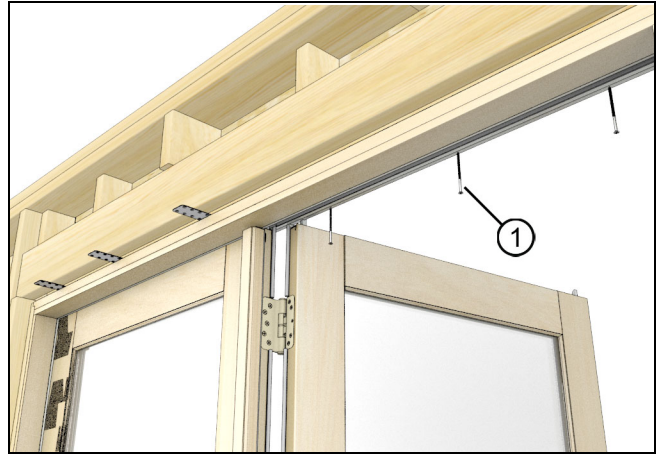

Figure 18
3. For units with a stationary panel and an interior astragal, the head jamb cover cannot be removed. Installation screws (minimum #8 x 3") will go through the head/jamb above any active panel and installation brackets will be used above any stationary panel. See Figure 18.